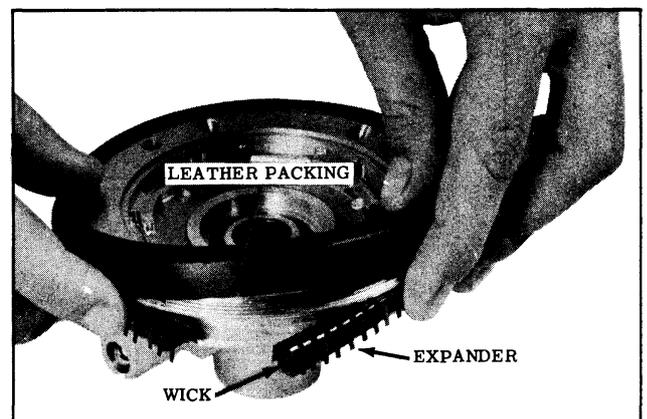

Fig. 7-19 Removing Leather Packing
10. Lift leather packing off vacuum piston, then remove the expander and wick. (See Fig. 7-19)